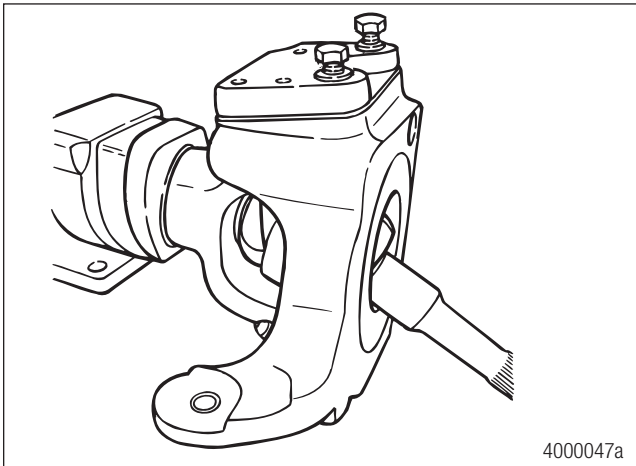

Figure 7.8
5. Install two capscrews and loosely tighten them to hold the upper knuckle cap in place. Figure 7.8.